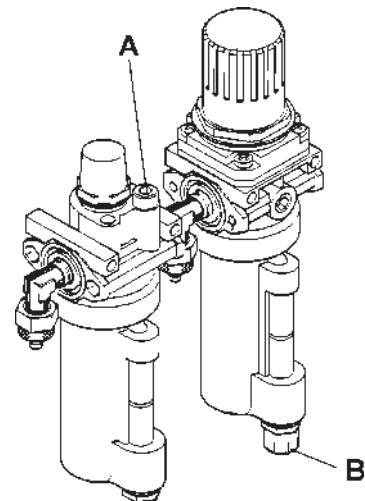

Fig. 29
H. Discharge water from air filter every day!! Do this by turning the knob "B" clockwise and push upward. Water will automatically be discharged. (see 'B' at Fig. 29).